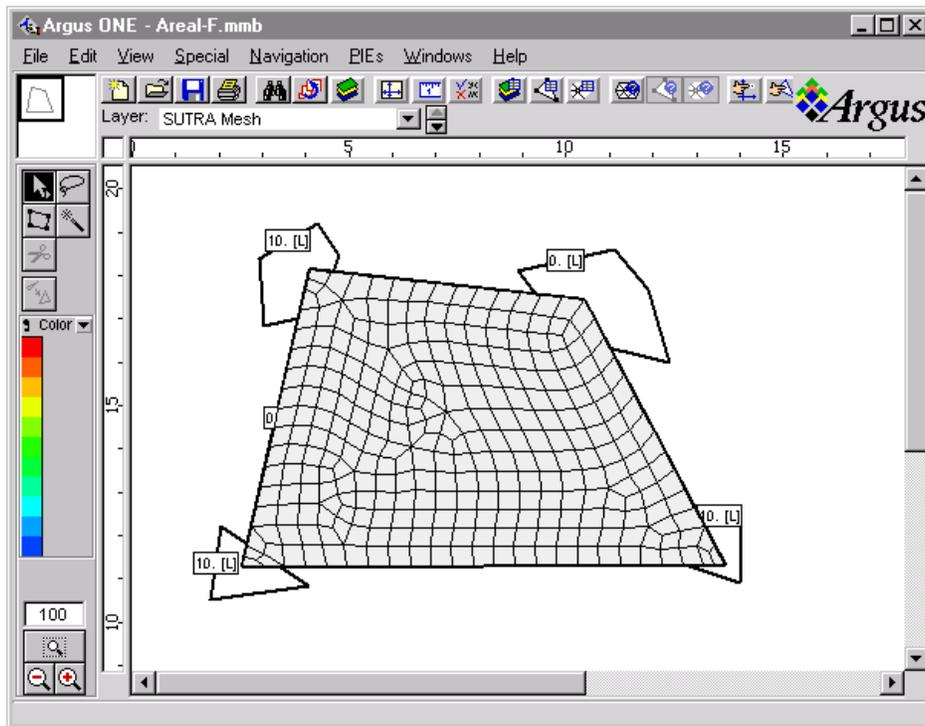

Figure 3. SUTRA Mesh in Areal Ground-Water Flow Step-by-Step Example
15. Click on the 'magic wand' found along the left side of the *Argus ONE* window near the arrow, and then click the magic-wand cursor inside the model boundary just drawn. An irregular finite-element mesh containing elements of about 0.5 size is generated and displayed. Figure 3 shows the type of mesh that may be expected.
17. Save the project so far by clicking **File**, and then **Save As....** Select the desired directory and type in the desired name (e.g. "Areal-F" for areal flow model) and then click on **Save.** A project file called Areal-F.mmb is created in the directory you chose, and the window name becomes the same, as shown in Figure 3.